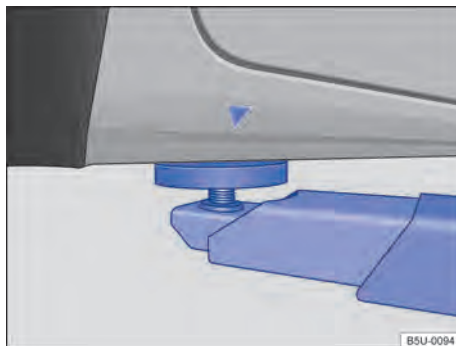
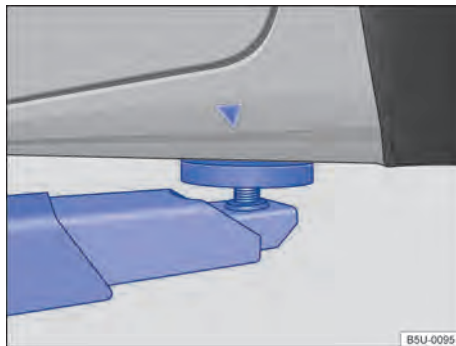

Fig. 208 Front lifting points for lifting with platform or vehicle jack.
Fig. 209 Rear lifting points for lifting with platform or vehicle jack.
The vehicle may only be lifted at the points shown in the illustrations → Fig. 208 and → Fig. 209. If the vehicle is not raised on the
- The vehicle may only be lifted at the points shown in the illustrations → Fig. 208 and → Fig. 209. If the vehicle is not lifted at the points shown, it could fall off the lifting platform when work is carried out, e.g. when the engine or transmission is removed.